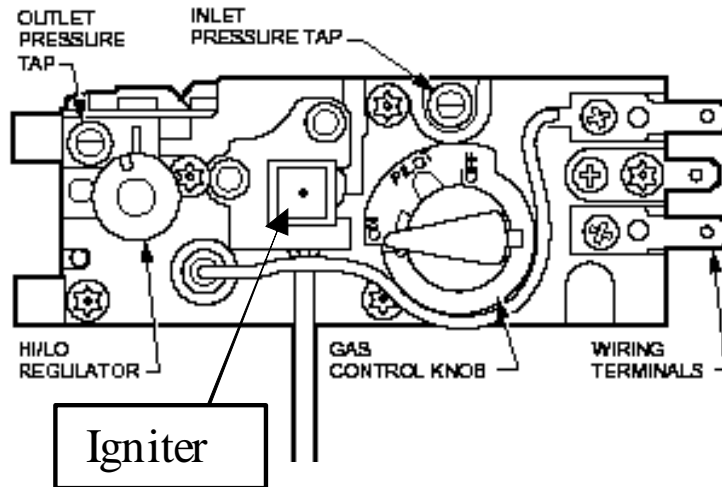

Figure 3
5. Push in the gas control knob slightly and turn clockwise to the "OFF" position (see Figure 3).